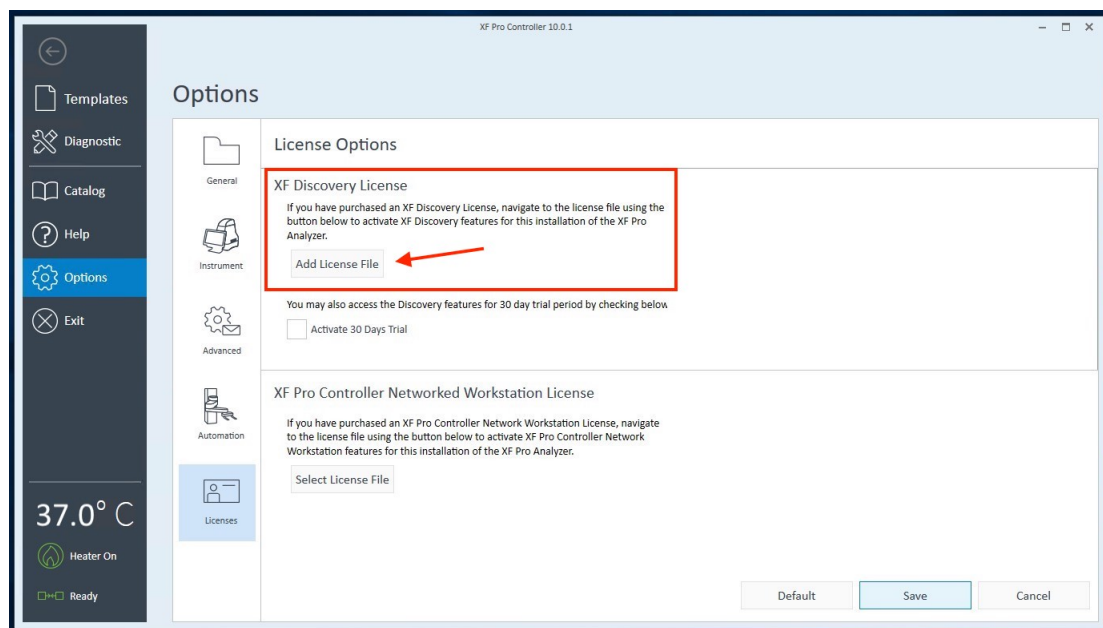

Figure 78. SWLIC-F11
- 5 Click the **Add License File** button (Figure 78).